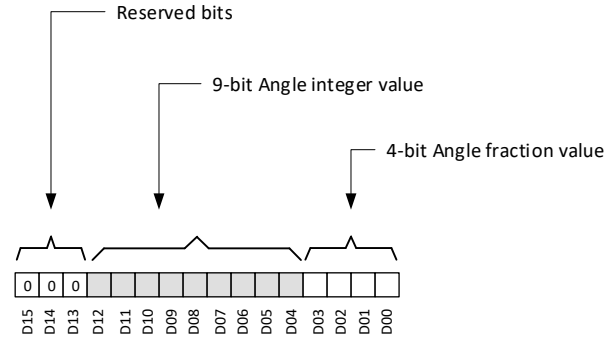

FIG 6-17. Angle Data Definition
The TMAG5273 calculates the angle from a pair of magnetic axes based off the ANGLE_EN register bits setting. 図 6-17 shows the angle information stored in the ANGLE_RESULT_MSB and ANGLE_RESULT_LSB registers. Bits D04-D12 store angle integer value from 0 to 360 degree. Bits D00-D03 store fractional angle value. The 3-MSB bits are always populated as b000. The angle can be calculated using 式 14.
- D_i is the data bit as shown in 図 6-17.